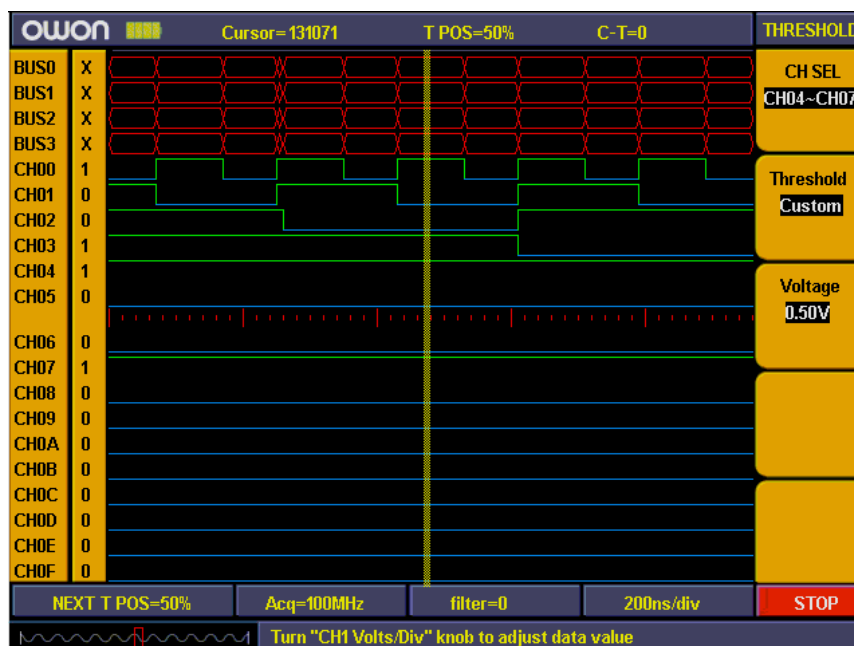

Fig 75: Threshold custom setting
- Threshold voltage setting finished (refer to fig. 75).